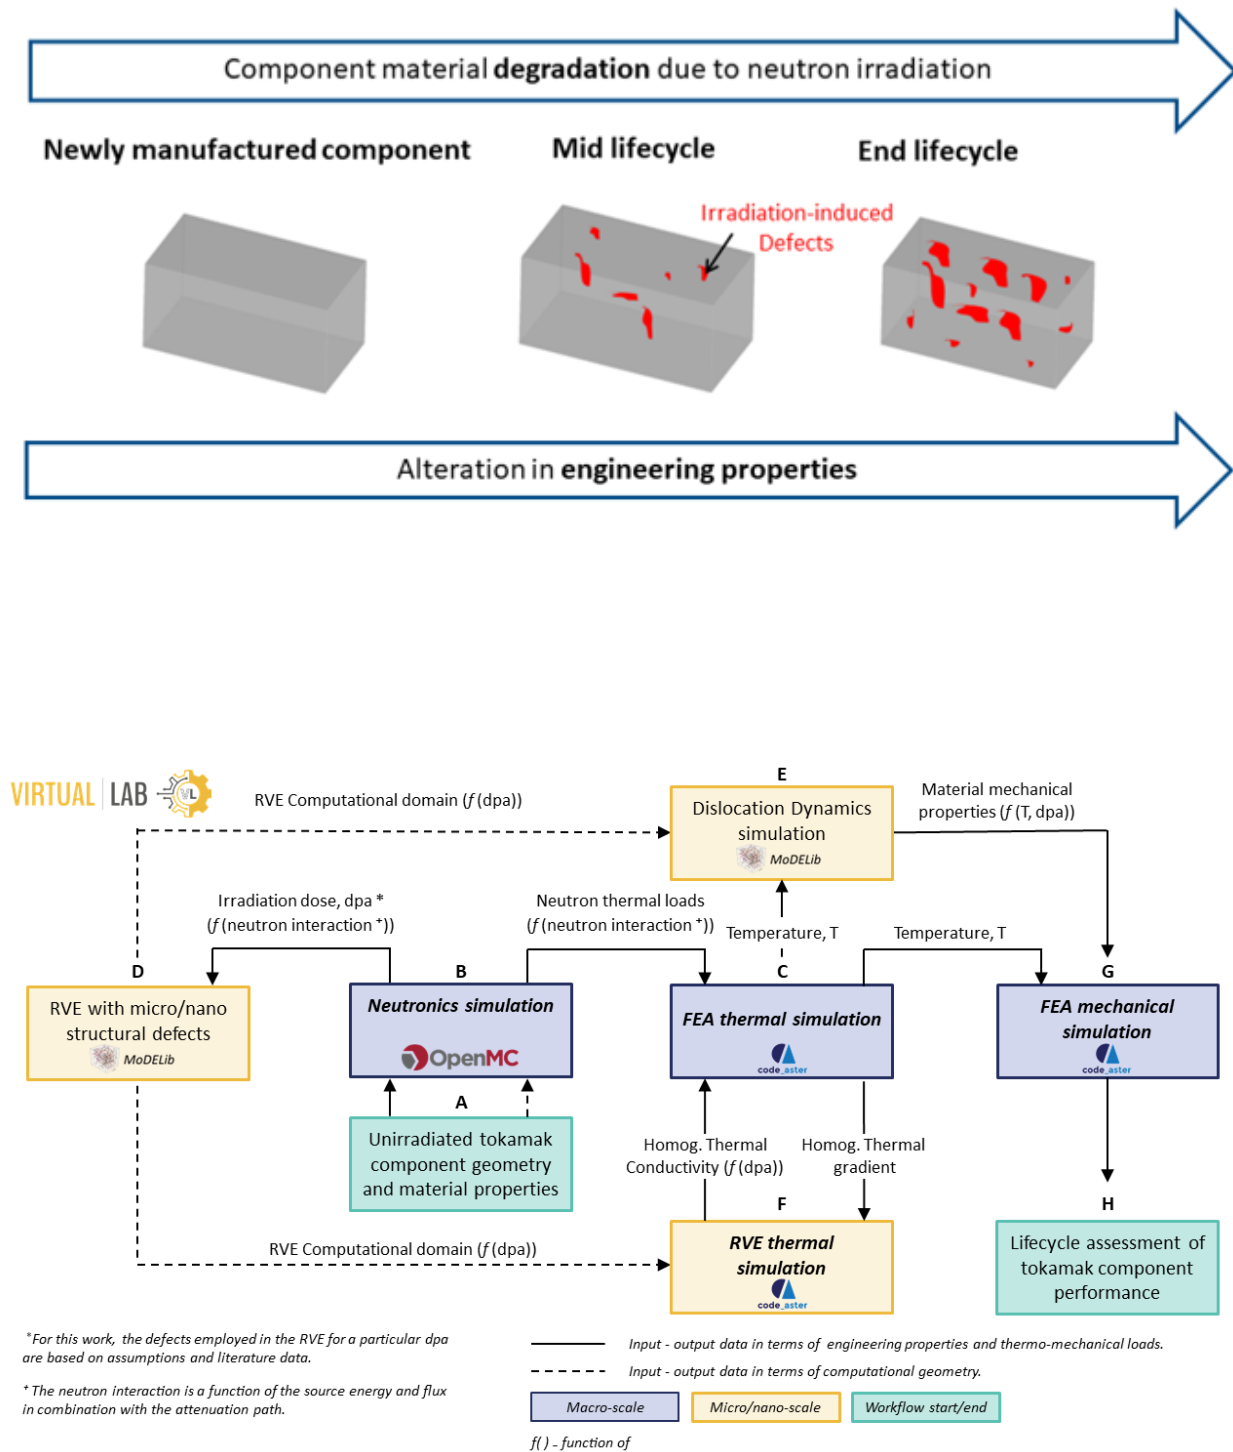

Fig. 6.34: Schematic diagram of the workflow for the developed platform.
The workflow is employed in **VirtualLab** in the form of a multi-scale hierarchical computational predictive capability to link the neutron irradiation-induced micro/nano scale defects response to the mechanical behaviour of tokamak components as shown in **Fig. 6.34**.
The letters (A)-(H) in the **Fig. 6.34** denotes various stages/components of the workflow incorporated **VirtualLab**. The neutron heating values are calculated in the Monte-Carlo based neutronics simulations from **OpenMC** (B) which are implemented as thermal loads for finite element simulation (FEA) in **Code_Aster** (C). The damage energy obtained from